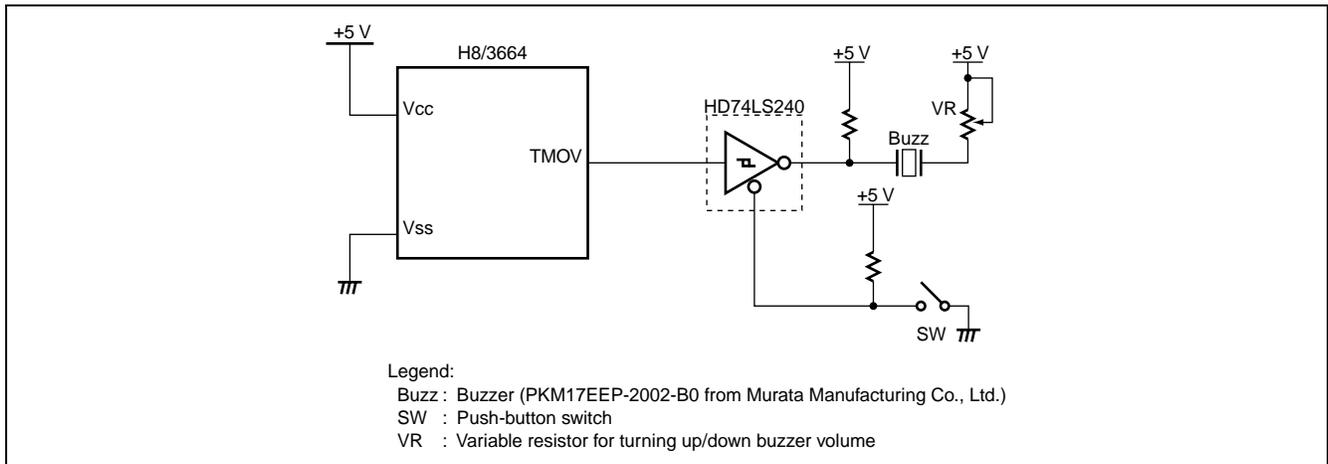

Figure 1.1 Hardware Configuration
2. Figure 1.1 shows the hardware configuration for connection of the timer V output to the buzzer. Turning on the switch sounds the buzzer.